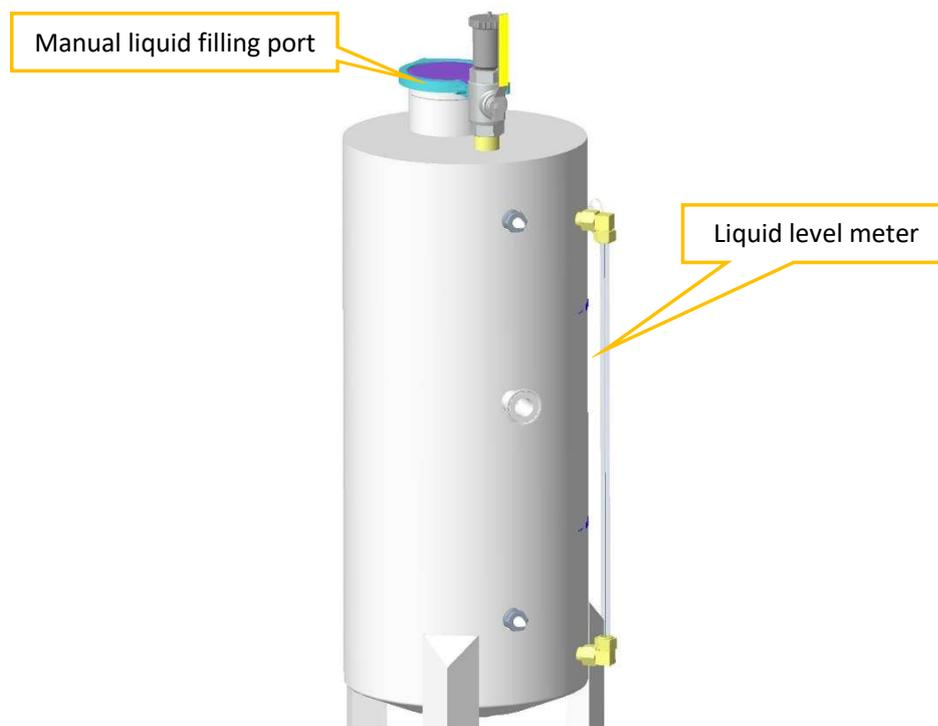

Figure 5-3-6 Pump station - liquid level meter
- 7) Then open NO.6 Ball Valve, close NO.7 Ball Valve, click on the refilling pump on the touch screen interface, and turn it on. Fill the water tank with coolant, and stop refilling coolant when the level gauge in the water tank reaches more than 2/3 (see Figure 5-3-6 for the location of the level gauge).